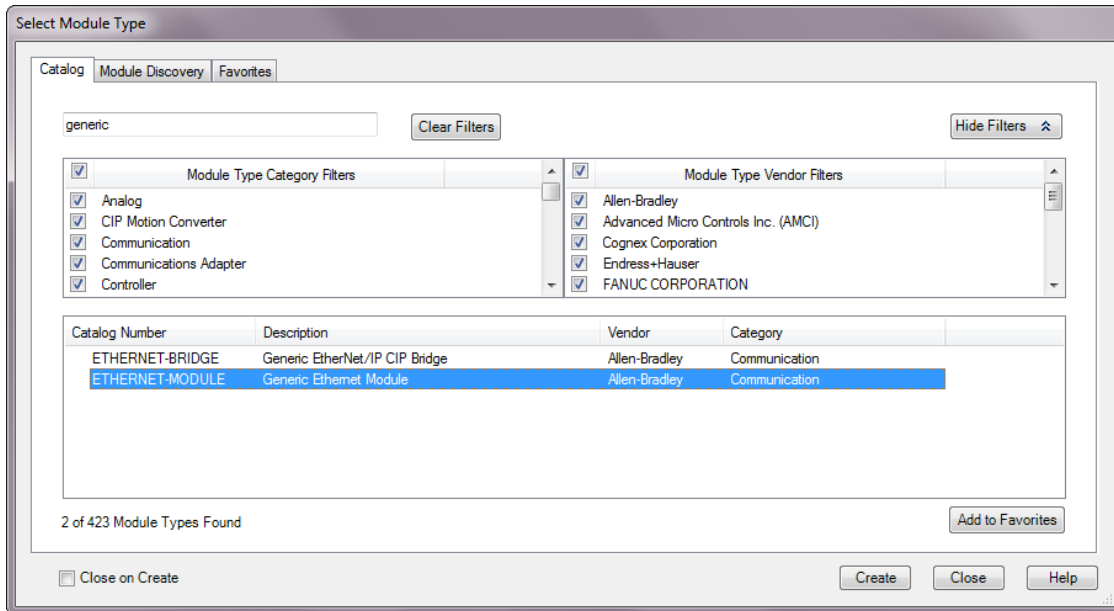

Figure T4.2 Selecting the Networked Driver
- 2) In the resulting Select Module Type screen, type “generic” into the filter as shown in figure T4.2. This will limit the results in the Catalog Number list.